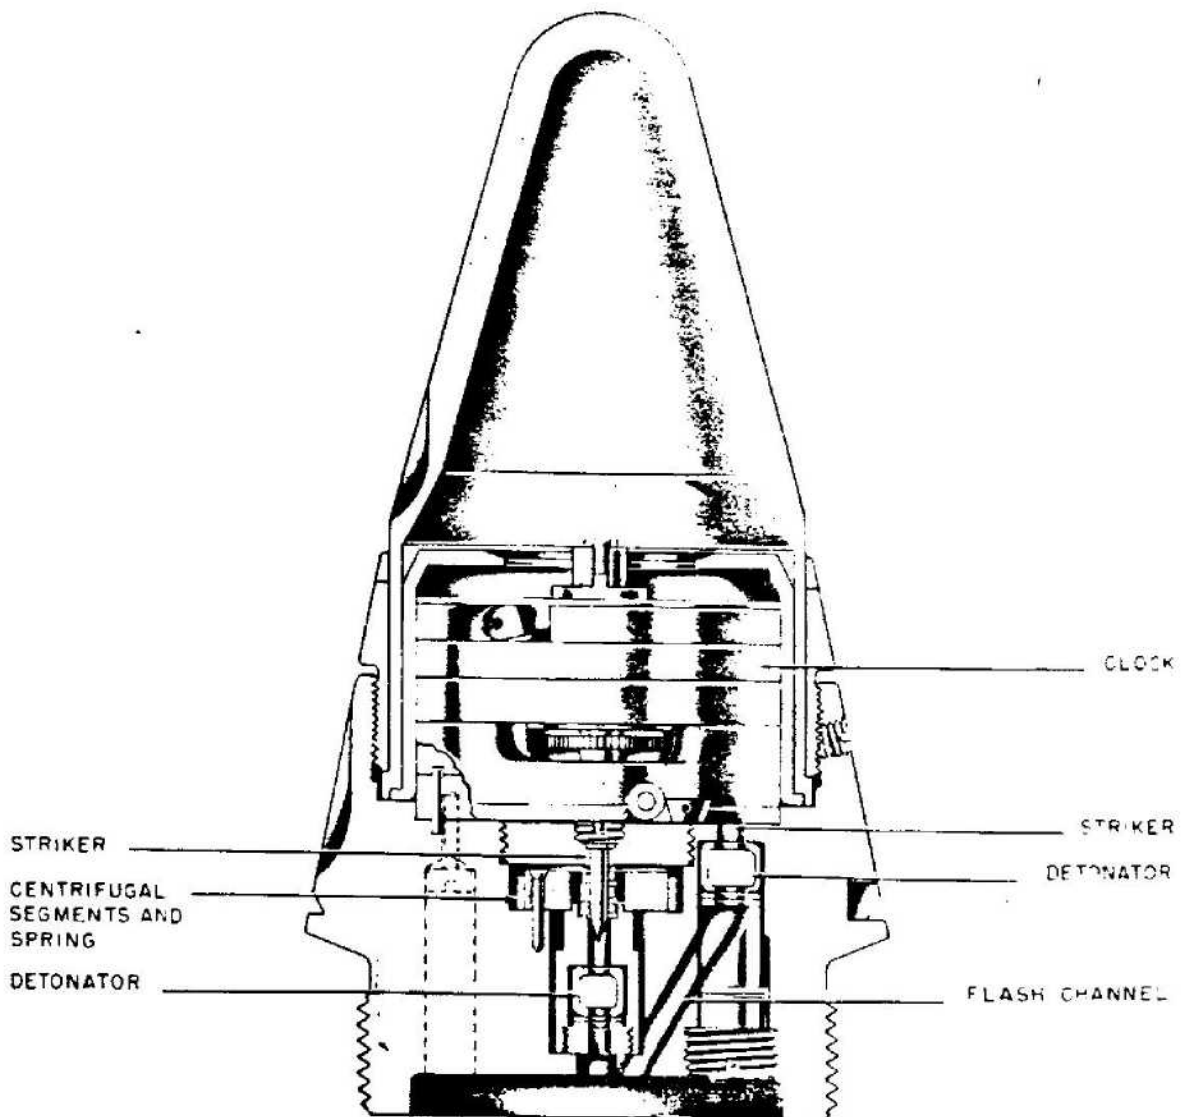

Figure 593B—Dopp. Z. S/90
**REMARKS:** The Dopp Z. S/90 and Dopp Z. S/160 Geb fuzes are identical to the Zt. Z. S/30 time fuze in construction and arrangement. The difference comes in the length of running time for the clock. (See figs. 593B and 593C.)